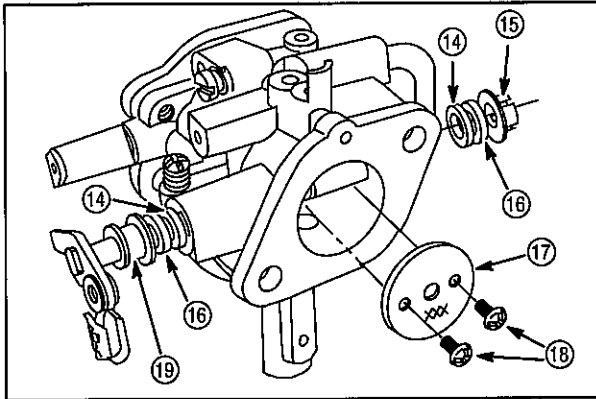

Fig. 47
8. Remove two screws (18) and the throttle plate (17), **Fig. 47**.